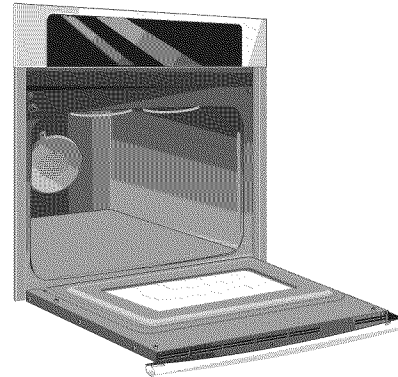

Figure 32: Door at horizontal position
3. Fully open the oven door, horizontal with floor (Figure 32).